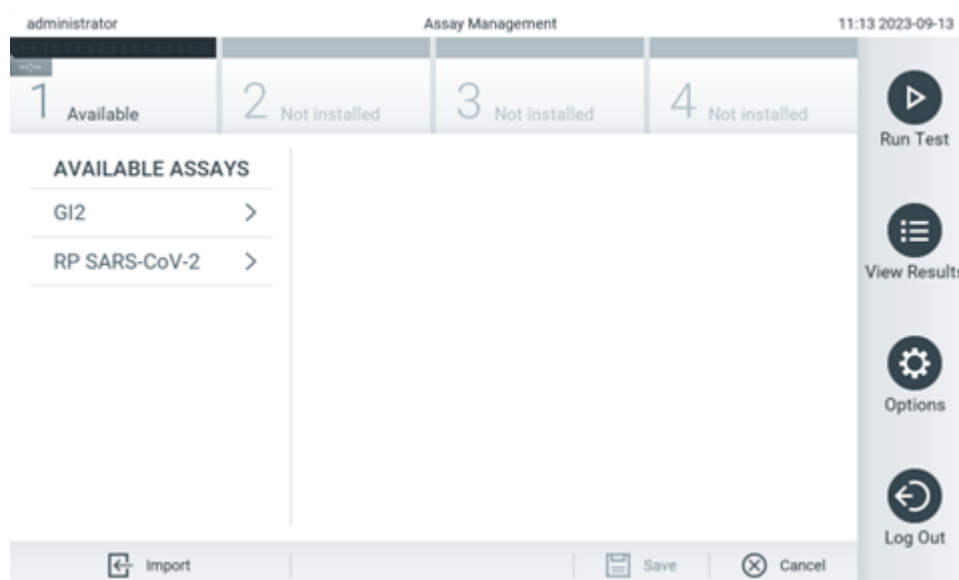

Figure 58. Assay management screen.
2. To import the new assay(s) to QIAstat-Dx Analyzer 2.0, press **Options > Assay Management**. The Assay Management screen appears in the content area of the display (Figure 58).